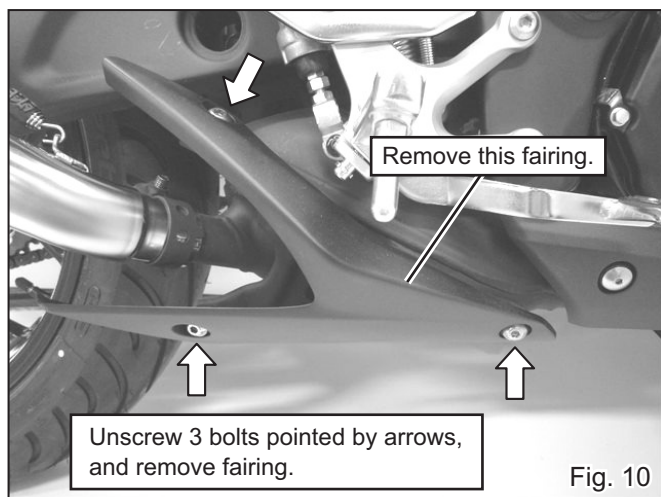

Fig. 10
- 10) Remove fairing under right front footpeg (See Fig. 10).